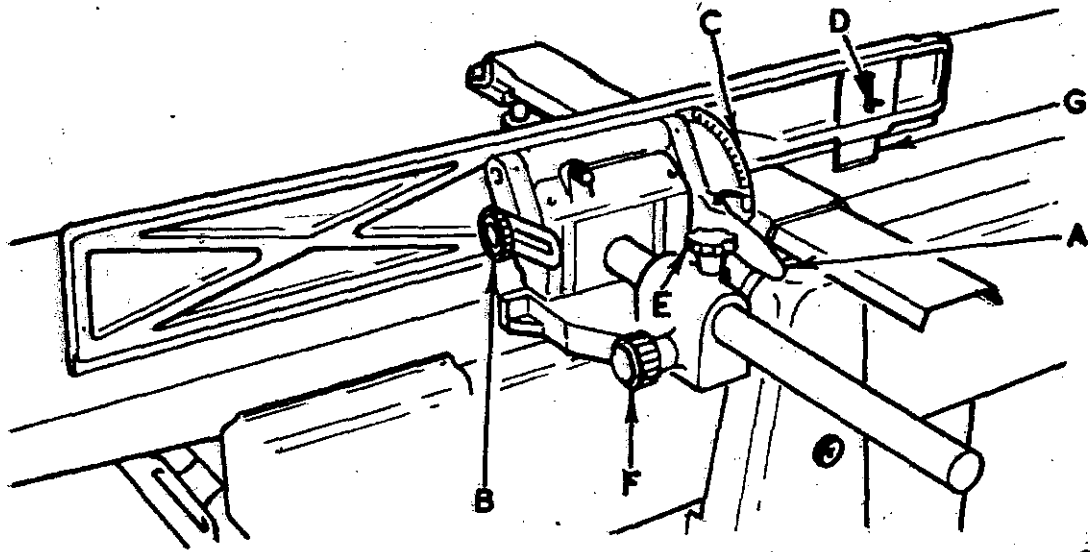

FIG 10.
The fence cants by means of a single lever "A" in Fig. 10 to  $45^{\circ}$ . The angle to which the fence is canted is shown on a graduated scale "C".
2. Check the  $90^{\circ}$  positive stops by means of a steel square as shown in Fig. 11. If adjustment is necessary, adjust the hexagon head bolts "A" until the fence is at right angles to the table when hard up against the stops and the handwheel "B", in Fig. 10 locked.
3. Check the  $45^{\circ}$  positive stop by means of an adjustable square. If adjustment is necessary, adjust the socket head grubscrew "B" until the fence is  $45^{\circ}$  to the table when hard up against the stop and the handwheel "B" in Fig. 10 locked.